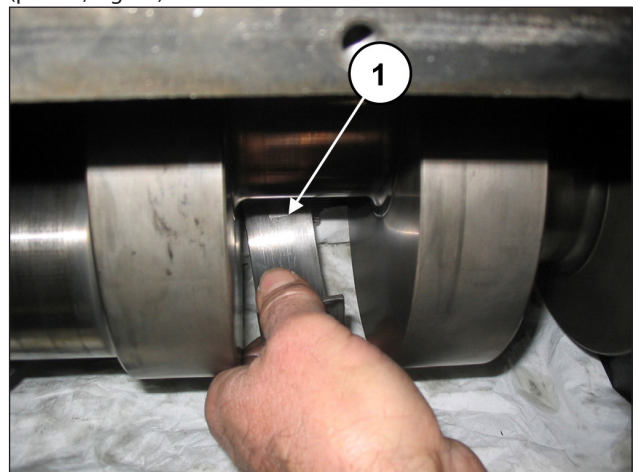

Fig. 27
Remove the three upper half-bearings of the half supports (pos. ①, Fig. 27).